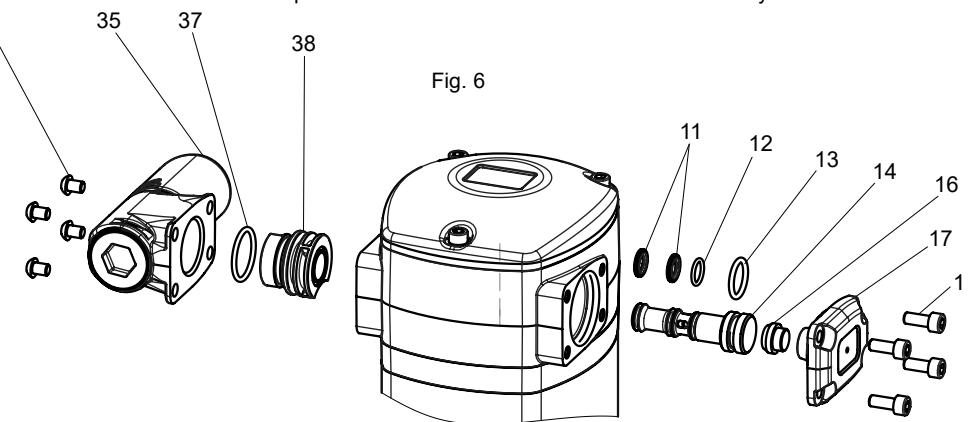

Fig. 6
AIR DISTRIBUTOR (FIG. 6)
3. Using a plastic tool, gently tap the slide (14) on the side of its smallest diameter through the motor (Fig. 6), remove the slide (14).
4. Replace the slide seals 2x(11), (12) and (13), or replace the complete slide (14) with its factory installed seals (kit 539505). This is the recommended option to ensure that the seals are installed correctly.